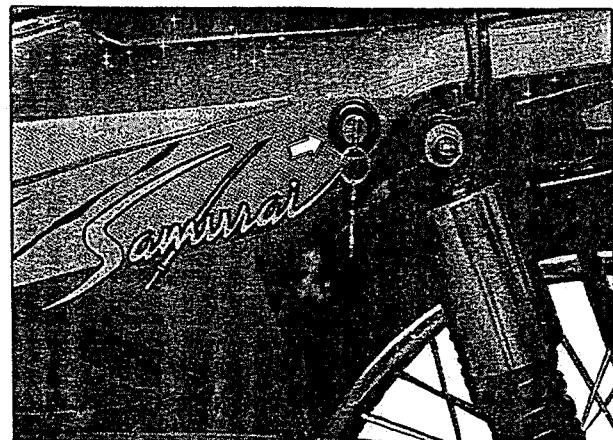

Fig 2.1
- Remove the left side frame cover (fig 2.1)